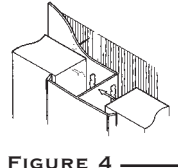

FIGURE 4
4. Slide THERMAX™ Insulation boards into place as shown (Figure 4).